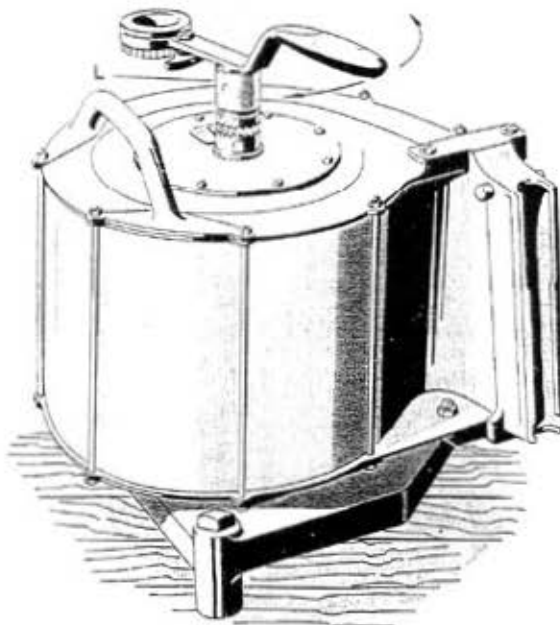

Figure 52—Magazine loading lever on main shaft (feed axis)
3. Place the loading lever on the end of the main shaft, as shown in Figure 52. This will permit the feed axis to be revolved and thereby rotate the cartridge feeder.
It is sometimes impossible to push by hand a number of cartridges back into the magazine in order to make room for more, and this is particularly true toward the end of the loading of the magazine. When this condition occurs, use the loading lever as shown in Figure 52. Rotate the loading lever counter-clockwise very slightly for a distance necessary for the insertion of one or NEVER OVER TWO cartridges.